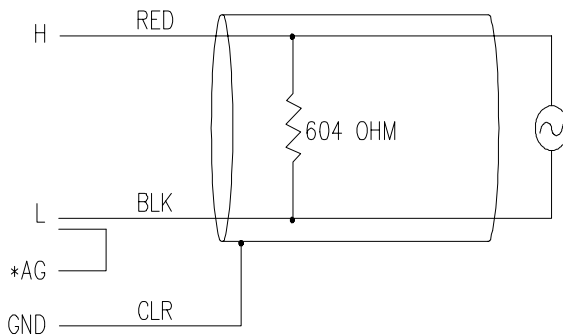

Figure 3. Differential Measurement Connection
Differential and single-ended connections to the datalogger are shown in Figures 3 and 4, respectively.
\*AG in Figure 3 refers to Analog Ground in the CR10(X) and CR500, which is the same as ground for the 21X and CR7.
On a differential measurement, jumper the low side of the signal to AG to keep the signal in common mode range, as shown in Figure 3.